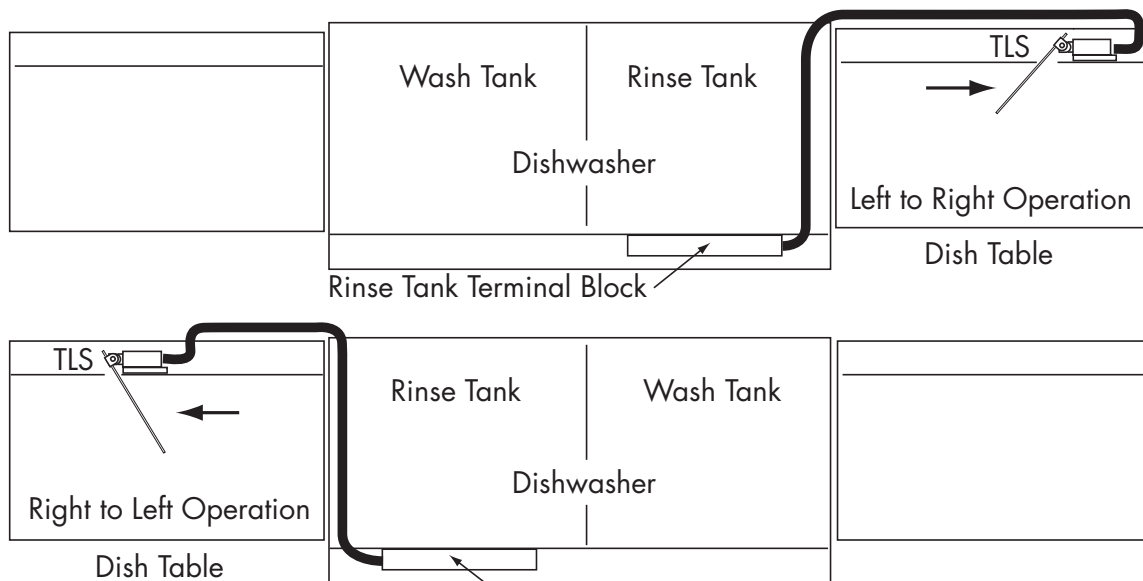

Fig. 7 -
2. Refer to Fig. 7, *TLS Conduit Routing*, below.